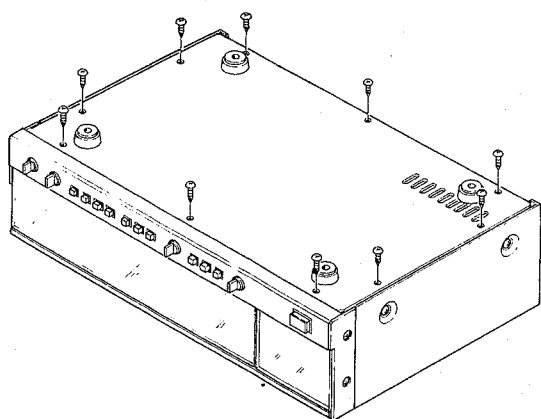

Fig. 5
1. How to Remove the Bottom Cover (Fig. 5)